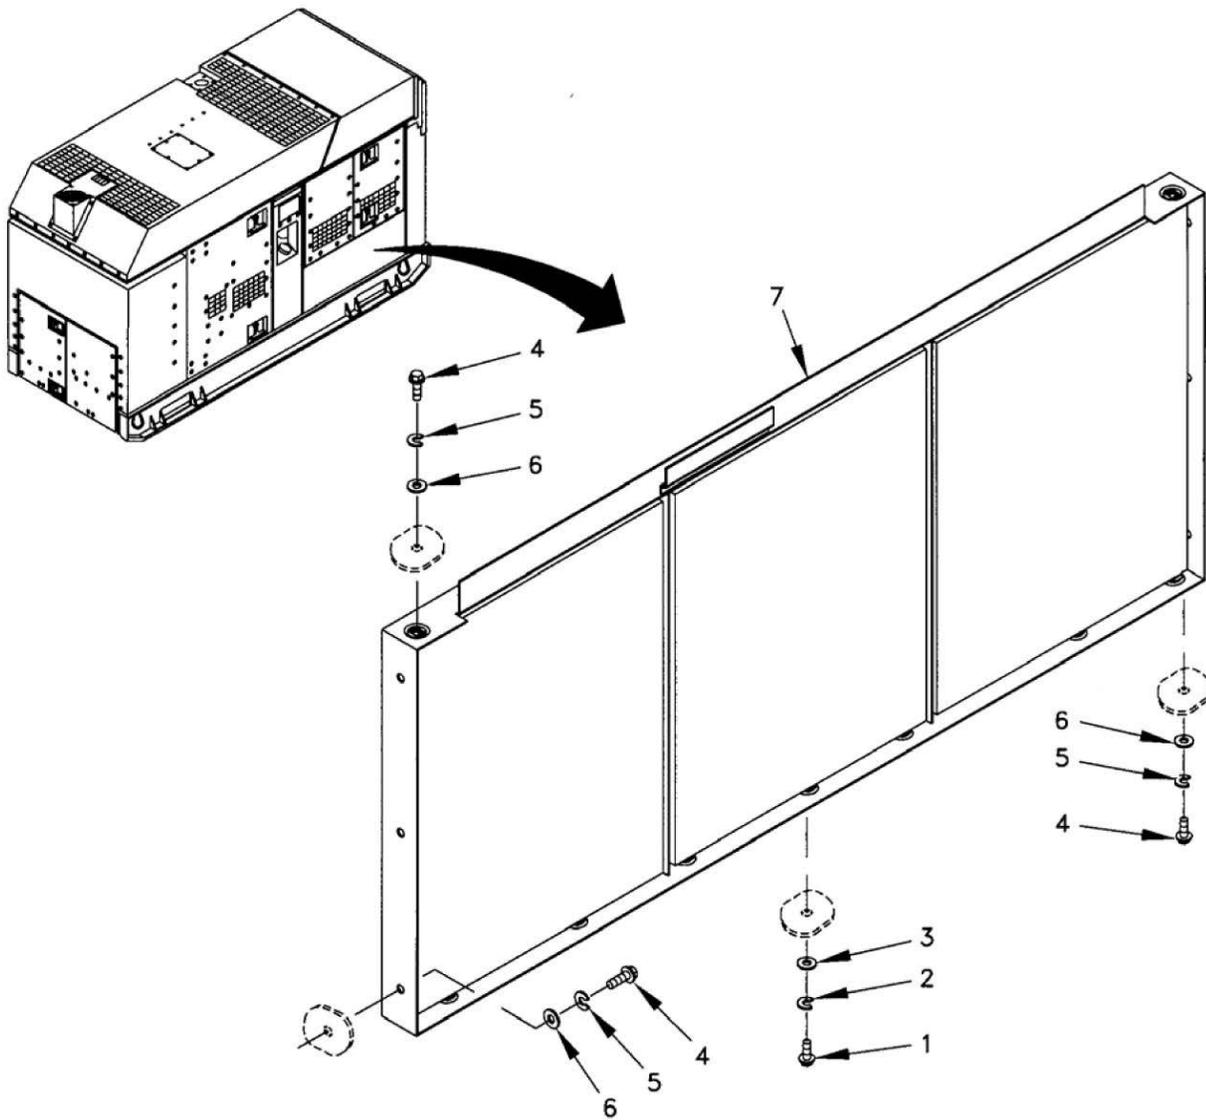

Figure 1. Left Rear Panel Assembly.
2. Remove seven screws (Figure 1, Item 1), lock washers (Figure 1, Item 2), and washers (Figure 1, Item 3).
3. Remove four screws (Figure 1, Item 4), lock washers (Figure 1, Item 5), washers (Figure 1, Item 6) and left rear panel assembly (Figure 1, Item 7).
1. Install left rear panel assembly (Figure 1, Item 7), and secure with four washers (Figure 1, Item 6), lock washers (Figure 1, Item 5), and screws (Figure 1, Item 4).